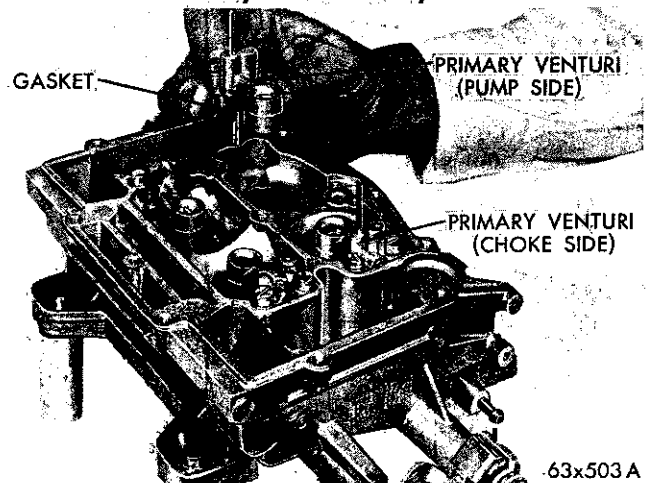

Fig. 5—Removing Primary Venturi
(3) Using Tool T-109-58, remove the main metering jets (primary side).
(4) Remove the screws that attach the primary venturi (choke and pump side) to the main body. Lift the venturi straight up and away from the main body, as shown in Figure 5. Discard the gaskets.
(4) Place the new secondary venturi gaskets in position (bleed hole in top, toward the center of the carburetor), install the secondary venturi (pump and choke side) by lowering straight down on the gaskets. Install the attaching screws and tighten securely.
(5) Place new primary venturi gaskets in position, then install the primary venturi (pump and choke side) by lowering straight down on the gaskets. (See Fig. 5.) Install attaching screws and tighten securely.